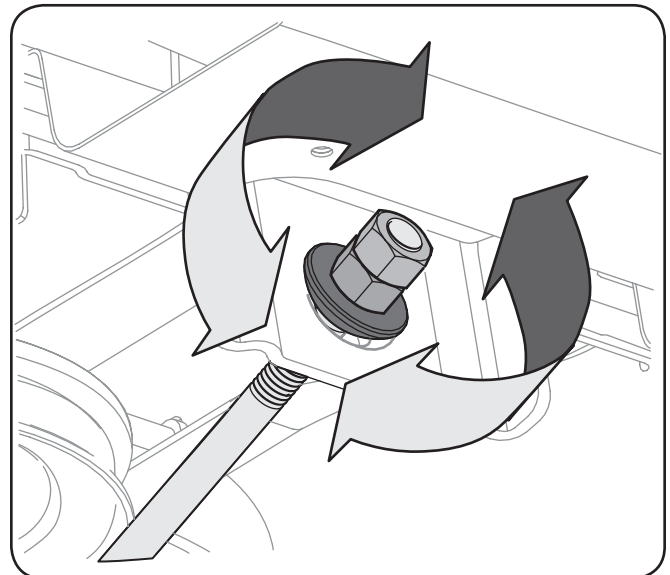

Figure 6-6
1. To *raise* the front of the deck, loosen the outer nut then tighten (thread inward) the nut against the front hanger bracket. See Figure 6-6. When proper adjustment is achieved, re-tighten the outer nut to 25-30 ft.-lbs.
2. To lower the front of the deck, loosen the outer nut then loosen (thread outward) the nut, away from the front hanger bracket. See Figure 6-6. When proper adjustment is achieved, re-tighten the outer nut.